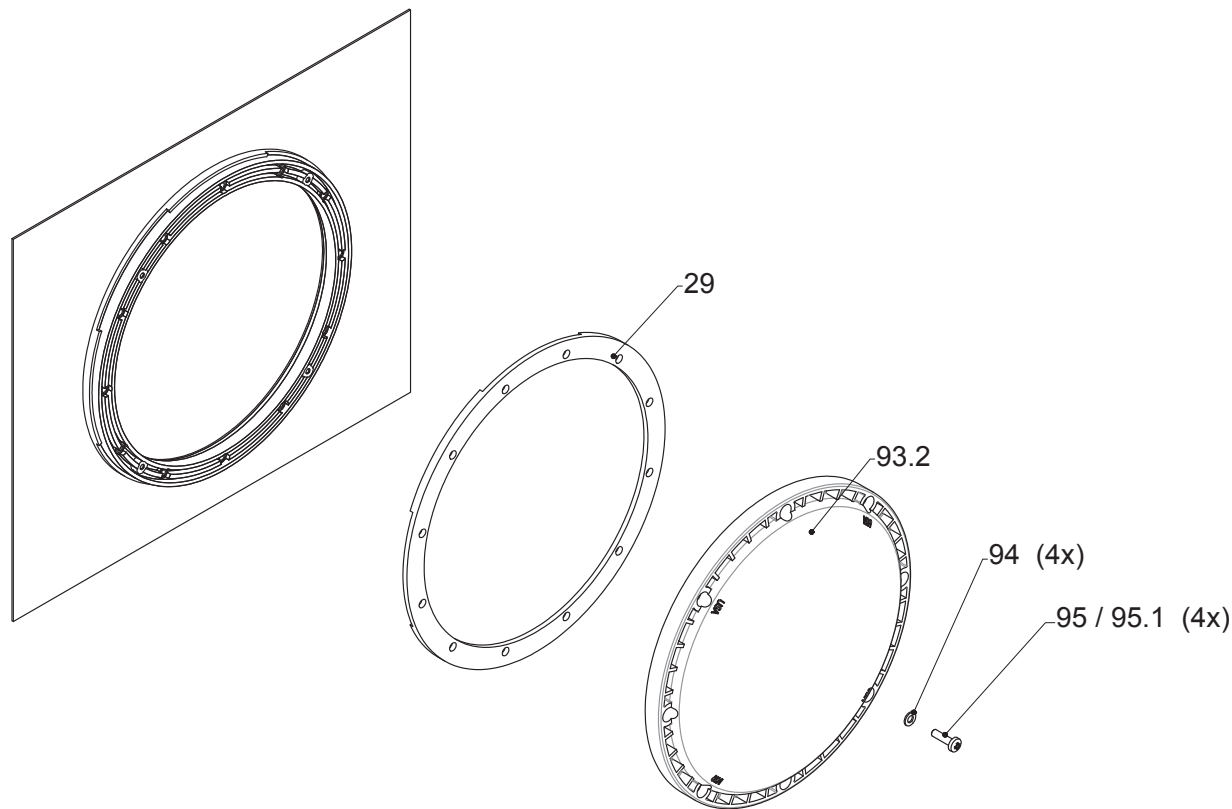

Figure 21
*In areas subject to freezing water temperatures, you should protect your equipment. We recommend you purchase a winter cover kit part #113. This kit includes one (1) winter plate (part # 93.2), one (1) gasket (part # 29), four (4) washers (part # 94) and four (4) screws (part # 95). (See Figure 21)*